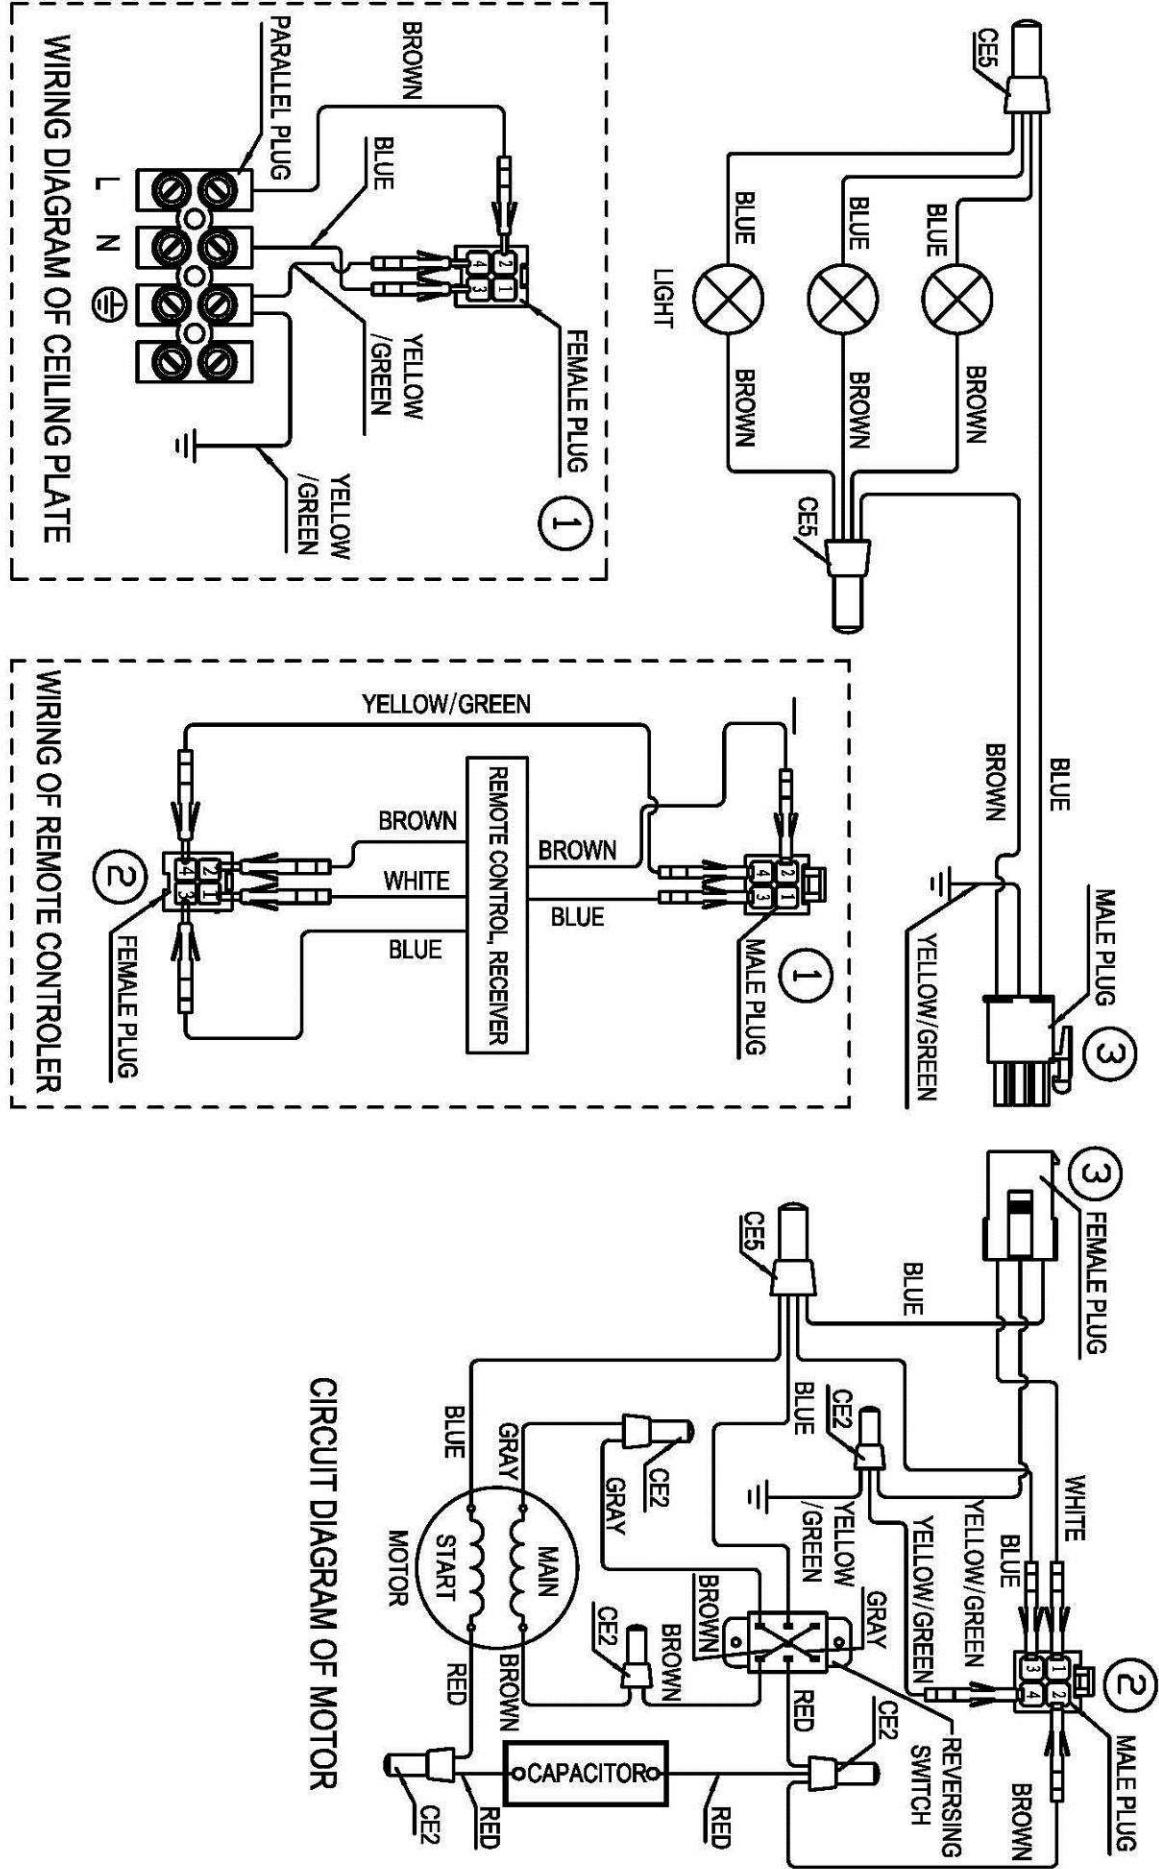

Figure 3
- 3) Connect remote to motor wire via plugging the plug and socket together (No.2 - Fig. 3) and connect remote to mounting bracket via plugging the plug and socket together (No. 1 - Fig. 3).